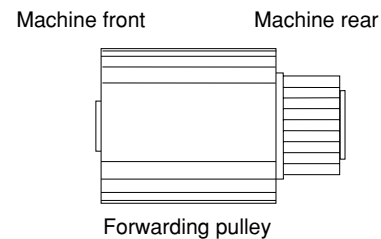

Figure 1-4-6
- When fitting the forwarding pulley, orient it correctly as shown in Figure 1-4-6.